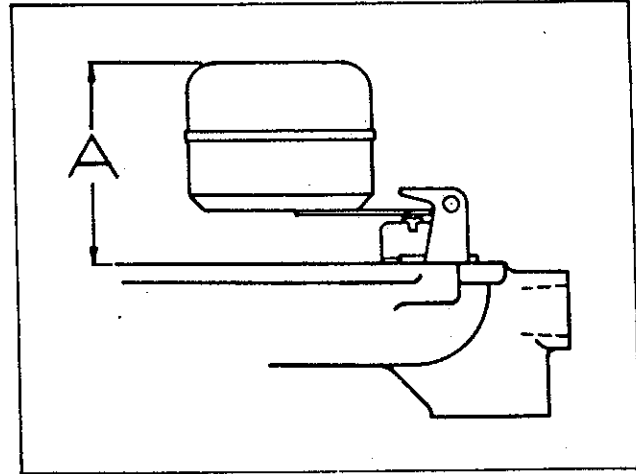

Fig. 8
5. On carburetors which include throttle lever bushing (6), spring (7), spring retainer (8) and cotter pin (11), install these parts over end of throttle shaft. Rotate spring retainer (clockwise) to hold throttle in closed position and then insert cotter pin through spring retainer and hole in throttle shaft.
6. Install throttle clamp lever (9) in same position as before disassembly. Align to match marks made at time of disassembly.
7. Install idle adjusting needle (12) with friction spring (13) in threaded passage at side of throttle body. Turn needle IN lightly against its seat, then back needle OUT 1-1/4 turns as a preliminary adjustment.
8. Install idle jet (54) in counter-bored passage and tighten, using a small screwdriver.
9. Install fuel inlet plug (55) and screen (if used) in threaded hole at side of throttle body, using C161-10 wrench to tighten plug.
10. Invert throttle body and install fuel valve seat (part of 52) and fiber washer (53), using C161-82 wrench.
11. Place new throttle body to fuel bowl gasket (15) on machined surface of fuel bowl cover and install fuel valve needle (52) in seat.
12. Place float assembly (51) in position with float lever bushing in line with holes in hinge bracket and assemble float axle (14) through bushing and in hole of bracket at side opposite slotted hole. Press float axle into slotted hole of bracket, using handle of small screwdriver to center axle.
13. To insure correct fuel level in the float chamber, check distance "A" from top of floats to machined surface of cover (no gasket) with throttle body inverted, see Figure 8. This dimension should be 1-5/32" for all 61-Series and 161-Series (except 161 carburetor with Float C81-50 in which case dimension "A" is 1"). To increase or decrease distance between float body and machined surface, use long nose pliers and bend lever close to float body.